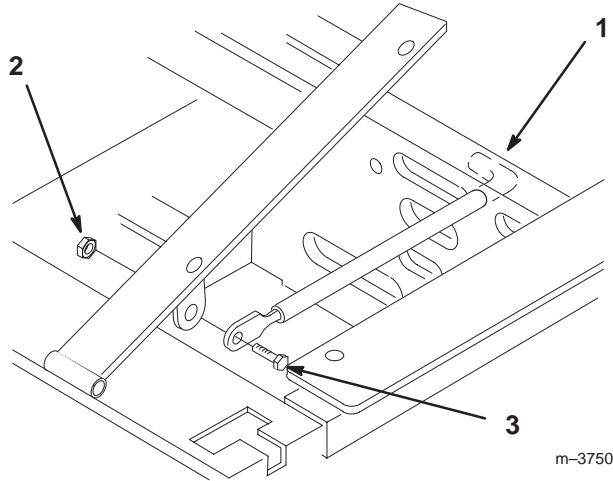

Figure 3
1. Tilt seat up. Remove 5/16" (8mm) locknut from bolt attaching seat retaining rod to seat frame (Fig. 3).
- Remove retaining rod from seat and insert the "L" shaped end of the rod into the hole directly above the left-side hydraulic pump (Fig. 3).
- Place the seat retaining rod to the outside of the mounting tab of the seat frame and secure with 5/16-18 x 1" (26 mm) bolt and 5/16" (8mm) locknut (Fig. 3).